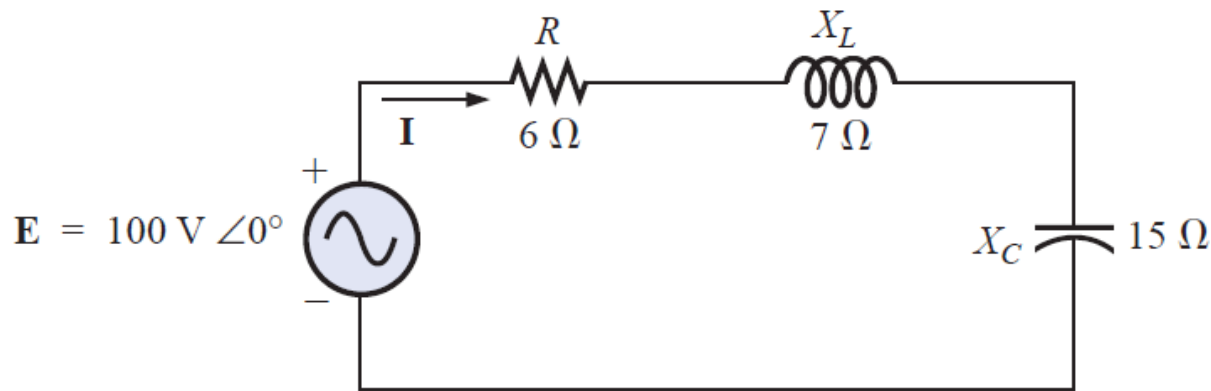

FIG. 19.19
- a. Find the total number of watts, volt-amperes reactive, and volt-amperes, and the power factor F_p for the network of Fig. 19.19.